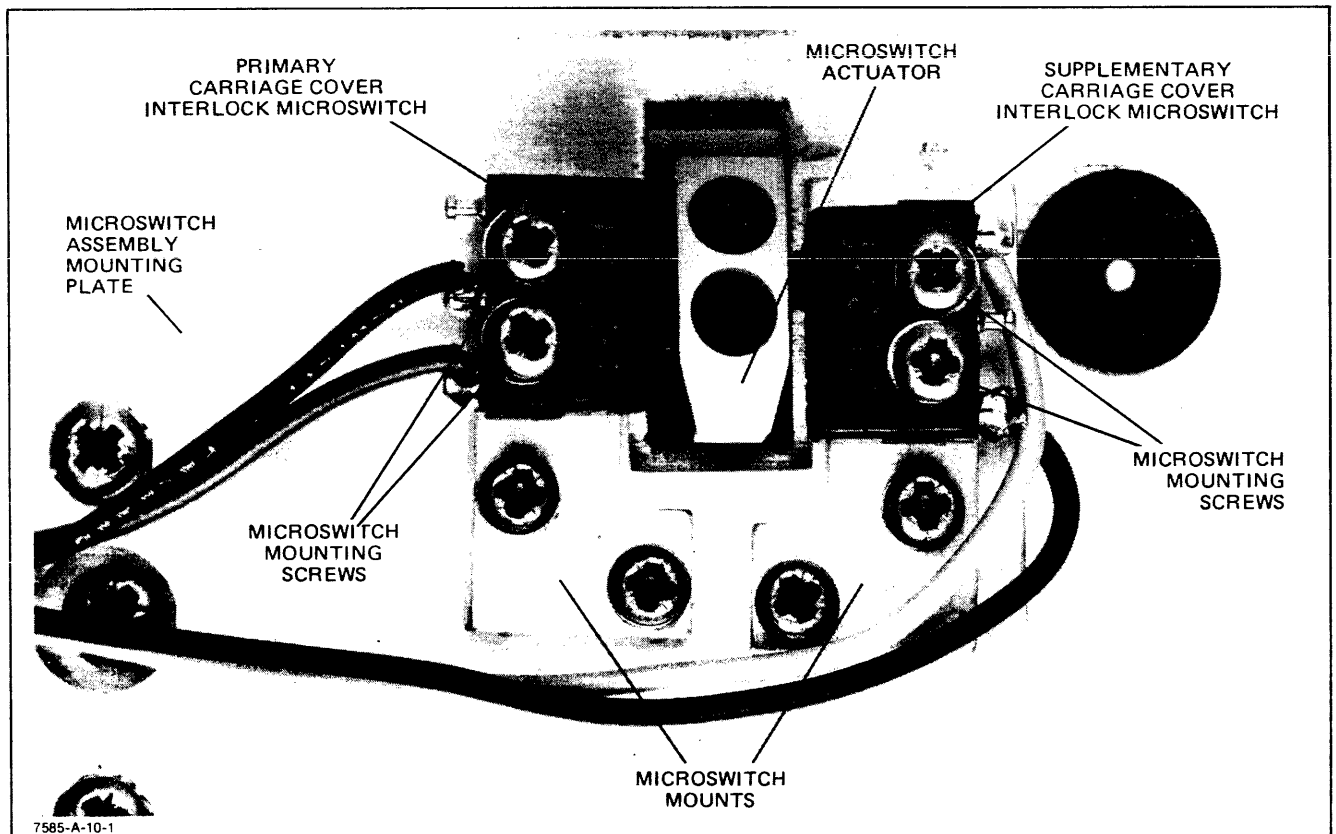

Figure 3-18. Carriage Cover Interlock Microswitches Adjustment
- d. Loosen the primary carriage cover interlock microswitch mounting screws. See Figure 3-18.
- e. Pivot the primary microswitch against the microswitch actuator until the switch closes. See Figure 3-18.